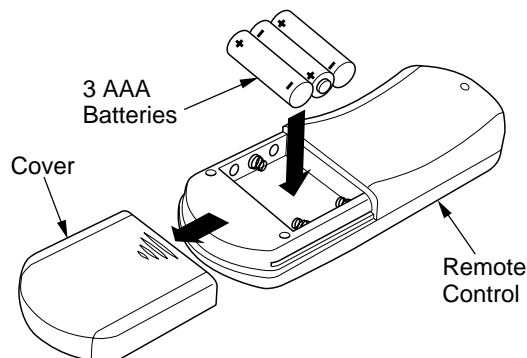

Figure 33 - Installing Batteries in Remote Control
1. Remove remote cover (see Figure 33).
2. Insert 3 AAA batteries into remote control (see Figure 33). Positive and negative are marked inside remote control casing. **Note:** Remote will not function if batteries are not installed correctly.